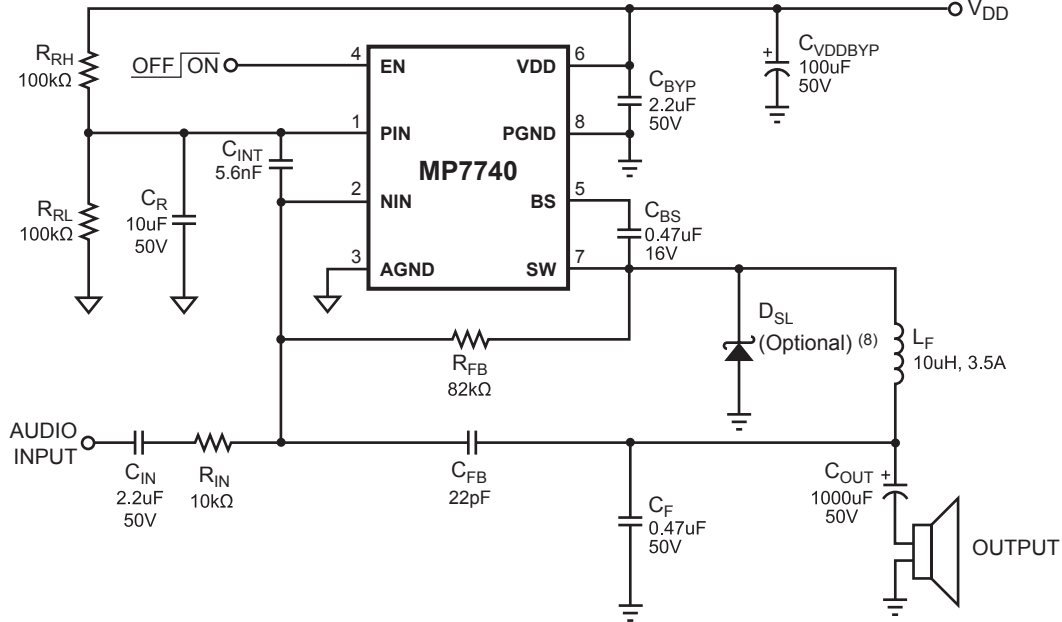

Figure 1— Mono Typical Application Circuit
The MP7740 uses a minimum number of external components to complete a stereo Class D audio amplifier. The circuit of Figure 1 should be suitable for most applications, and use the following sections to determine how to customize the amplifier for a particular application.
**Table 1—Switching Frequency vs.  $V_{DD}$ , Timing Capacitor and Feedback Resistor (see Figure 1)**